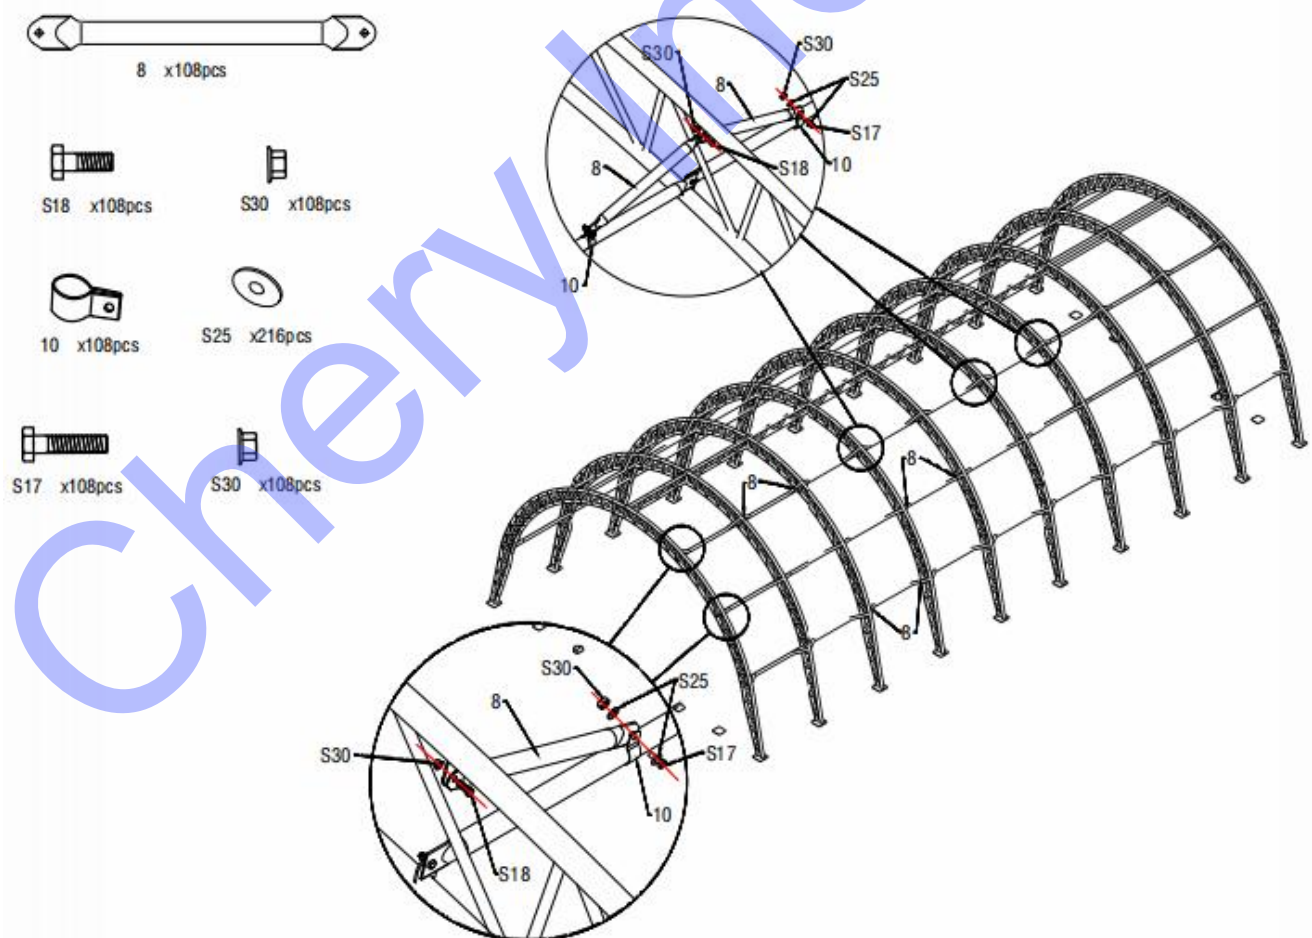

Figure 9
5. Fix clips(No.10) on purlins(No.7) and install the Diagonal Support Tube For purlin (No.8) on clips as figure 9 shows. Please connect the Diagonal Support Tube For purlin (No.8) between arch frame and purlin (No.7) by using Screw M10x30(No.S18) and Screw M10x50(No.S17) with plain washer M10(No.25).